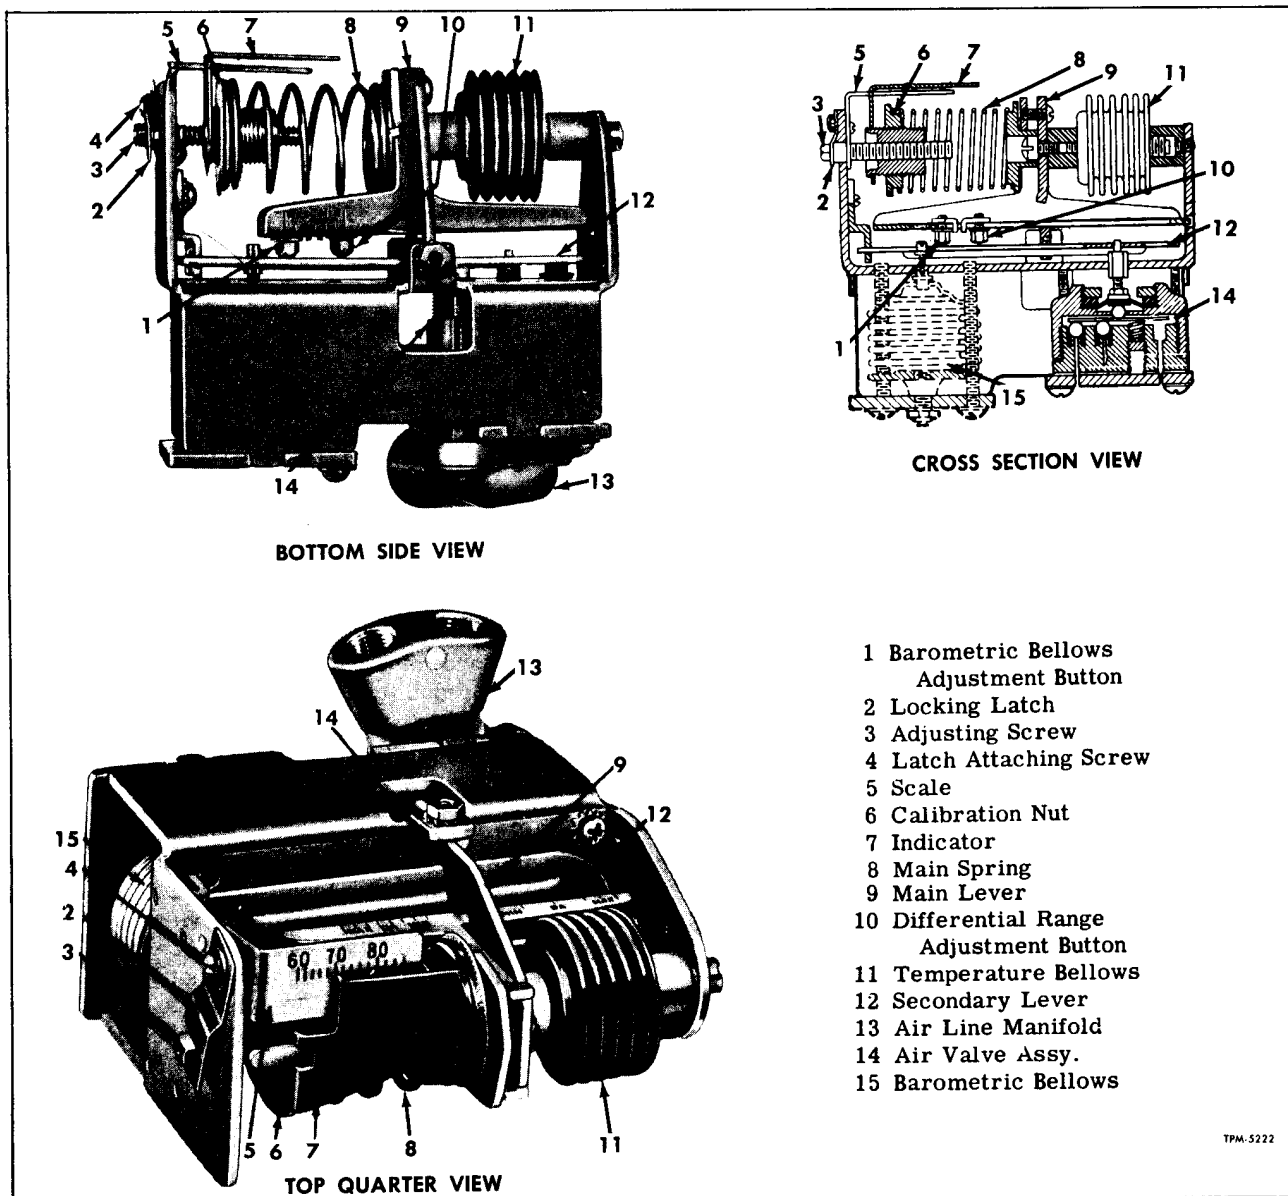
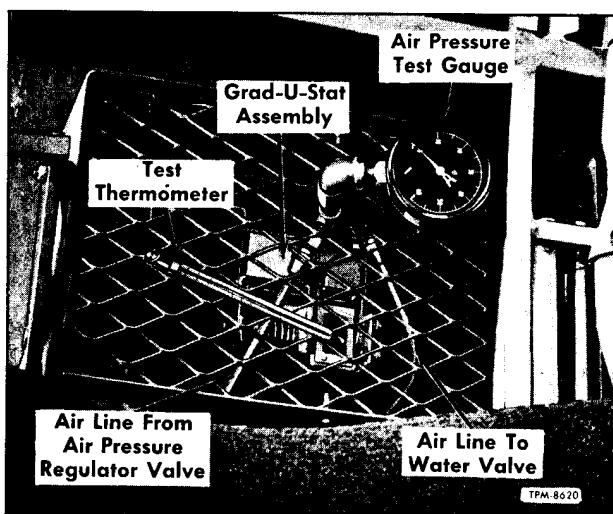

Figure 34—Standard Heating System Grad-U-Stat (Standard Controls)
Figure 35—Grad-U-Stat with Test Thermometer and Air Pressure Gauge Installed (Standard Controls)
Grad-U-Stat (fig. 34), which is a thermostatically air-operated control valve, is installed in recirculated air inlet located under seat, at right side of coach (fig. 35). Two air lines connect to unit. Main air line, connected to left port is the main feed line from air pressure regulating valve, which limits the air pressure to 17 lbs; right line carries air pressure from unit to the water modulation valve.
On some coaches, an additional factor also controls the operation of Grad-U-Stat. An electrical heating element directly above Grad-U-Stat acts upon the unit temperature sensing bellows. Figure 35 shows heating unit installed. Current through heating element is controlled by the "TEMP-RANGE" selector control operated by the driver.
The differential range adjustment button (10, fig. 34) on the main lever is set at the factory to provide a 6°F. differential between fully closed and fully opened position. This setting has been found satisfactory for most operations and it is recommended that setting not be changed.
Grad-U-Stat is also altitude compensated, providing uniform temperature control when coach is operating at various elevations. An auxiliary bellows (15, fig. 34), unaffected by temperature changes, opposes the effect of altitude changes on the temperature-sensing bellows by retarding action of the secondary lever.
Key numbers in text refer to figure 34.
2. Remove plug from line elbow at Grad-U-Stat, then install air pressure test gauge in this circuit (fig. 35).
4. Check the air temperature at the bellows with an accurate thermometer (fig. 35). **IMPORTANT:** Do not touch the bellows with hand while accomplishing the following operation, as body heat will affect both units and erroneous readings and adjustments will be obtained.
5. Through grille in side of air inlet riser, loosen locking latch screw (4), disengage latch (2) from adjusting screw (3), then turn the adjusting screw to set the indicator at the temperature shown on the thermometer.
6. Observe pressure reading on air pressure test gauge. If reading is 4-1/2 pounds, no adjustment is required. If pressure is above 4-1/2 pounds, turn the calibration nut (6) and main spring (8) to shorten the spring until the correct reading (4-1/2 pounds) is obtained. **NOTE:** Compress spring when turning nut against increased spring compression. Release hand pressure on spring when checking readings. If pressure is below 4-1/2 pounds, turn calibration nut and main spring in opposite direction to lengthen the spring (spring compression not necessary).
7. After correct adjustment is obtained, turn adjusting screw (3) to set the indicator at desired
a. Using a small open-end wrench, loosen the differential range button (10, fig. 34). Move the button to the desired position on its scale, and retighten range button. NOTE: To perform this operation, remove the screen from air inlet.
b. Make sure differential range button is between the MAX. and MIN. markings on side of main lever (9, fig. 34). Maximum range is 10 degrees, minimum range is 3 degrees.
REMOVAL OF GRAD-U-STAT (Fig. 35)
INSTALLATION OF GRAD-U-STAT (Fig. 35)